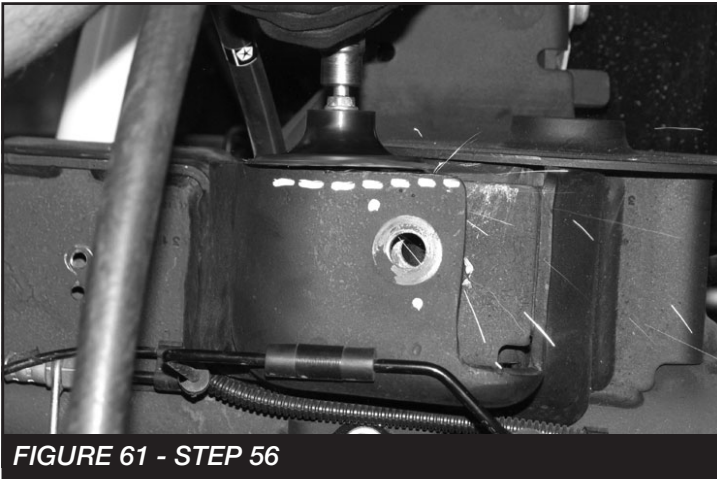

FIGURE 61 - STEP 56
56. Locate the FT44333BK rear track bar support bracket. TRIMMING MAY BE REQUIRED TO INSTALL THE NEW FT44333BK REAR TRACK BAR SUPPORT BRACKET. **SEE FIGURE 61**